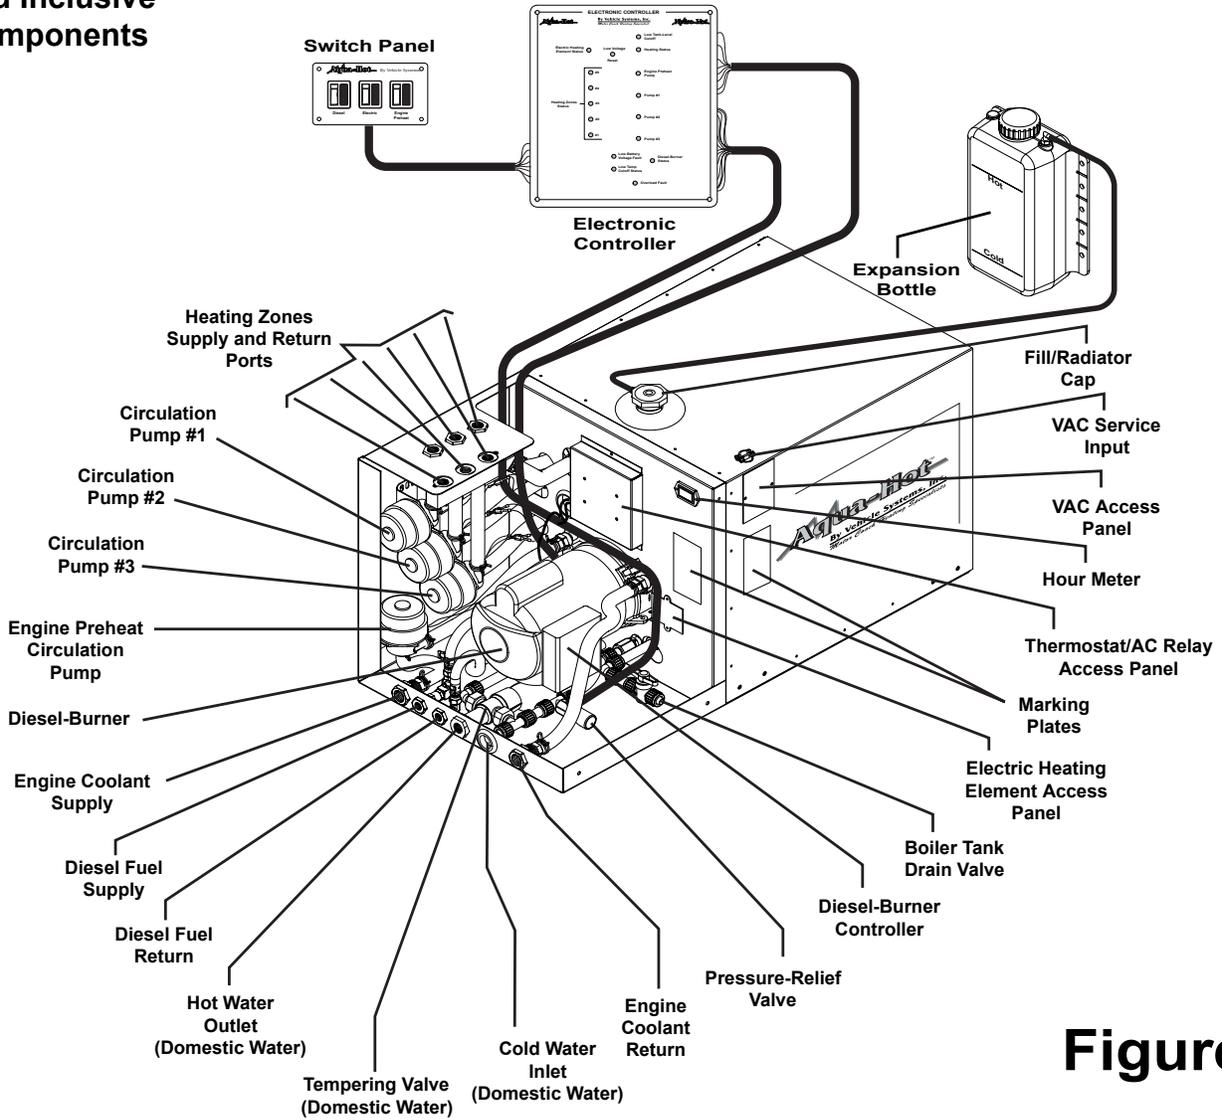

Figure 1
Vehicle Systems, Inc. manufactures two individual models of the Aqua-Hot Hydronic Heating System. The varying factor between these two models is the number of Electric Heating Elements featured, as well as the wattage employed by each Electric Heating Element. In order to determine which of the following Aqua-Hot models has been employed, locate the Marking Plate on the Heating System (reference Figures 1 and 3 for Marking Plate information) and view the Model Number Box.
**Reference Figure 1